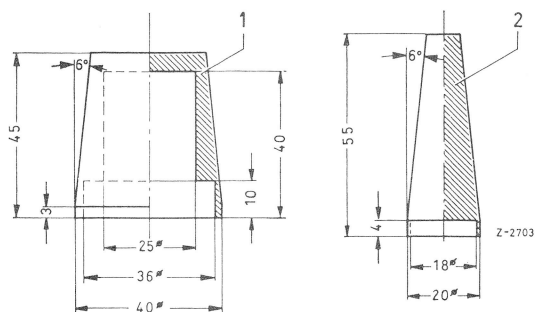

Fig. 7
Make two assembly sleeves according to dimensions shown in Fig. 7 to insert fastening rings (3) and (10). The flat wire clamping ring (3) will be very hard to install without using these assembly sleeves (Fig. 5).